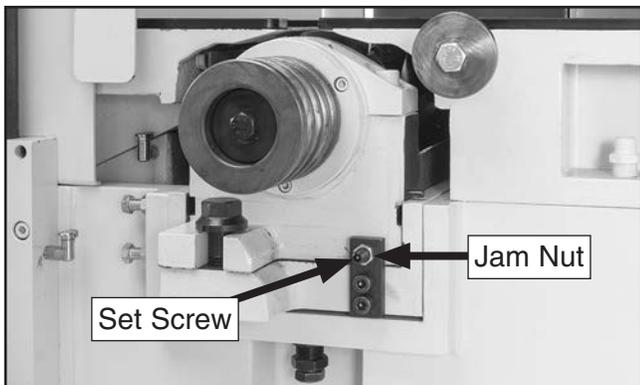

Figure 96. Location of lower cutterhead position set screw. (V-belts removed for clarity.)
5. Loosen jam nut on lower cutterhead position set screw (see **Figure 96**).